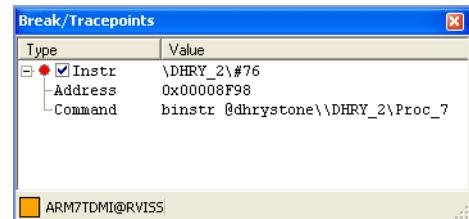

Figure 11-9 Breakpoint entry expanded
2. Expand the entry for the breakpoint. This shows the location of the breakpoint, and the CLI command that was used to set it. Figure 11-9 shows an example: